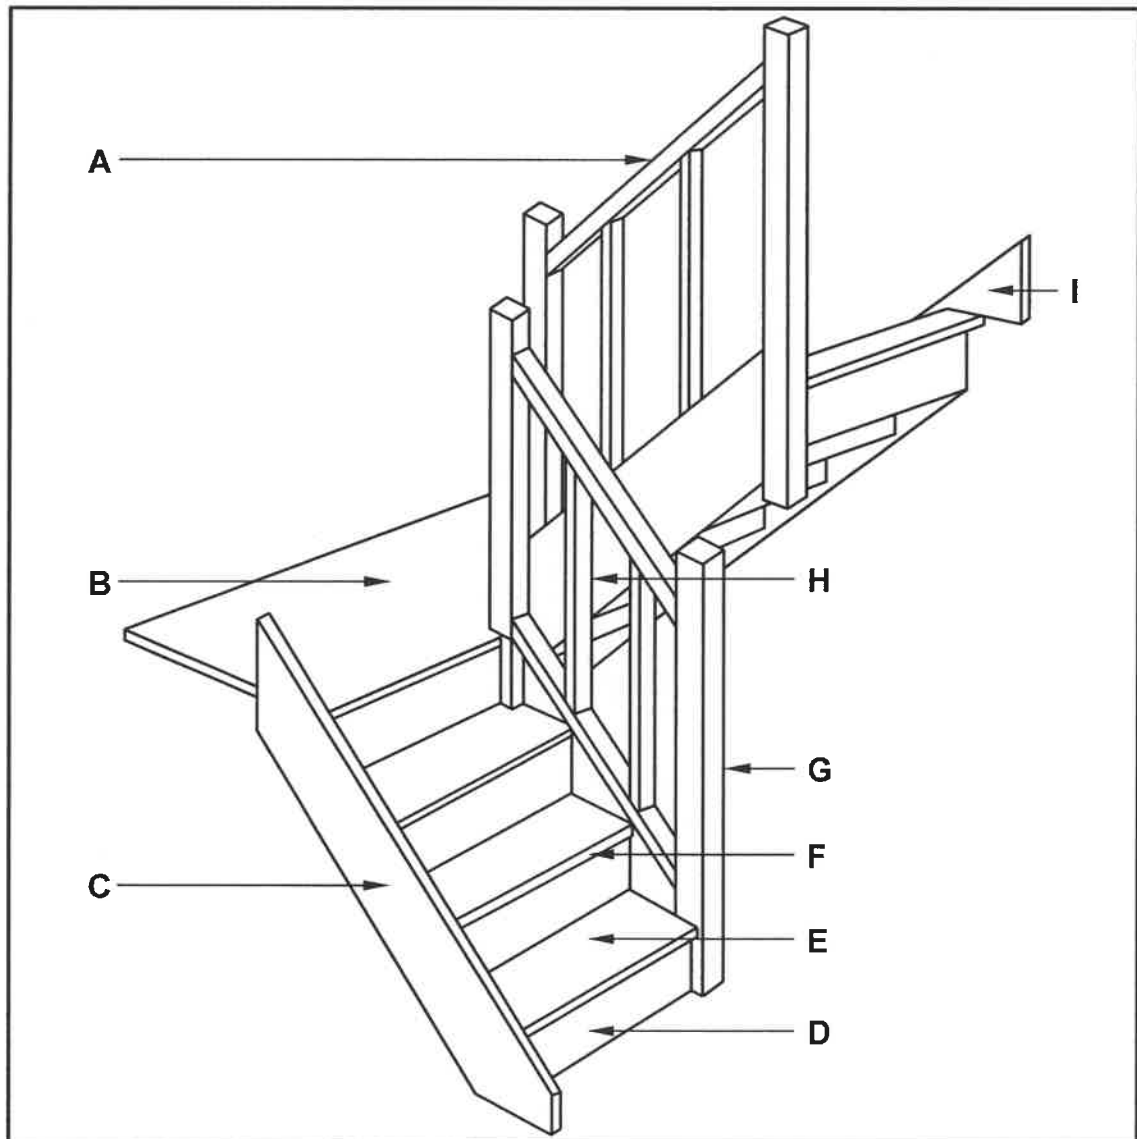

FIGURE 6.6
- 6.6 Study FIGURE 6.6 below. Match the word(s) in the list below with the labels in FIGURE 6.6. Write only the correct word(s) next to the label (A–I) in the ANSWER BOOK.